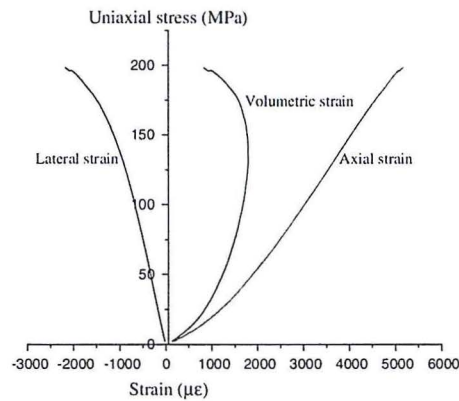

Figure 2
- a) Briefly discuss the effects of specimen end preparation on uniaxial compressive strength of intact rock specimen and how do you prepare the sample such that these effects are minimised? (12)
- b) Figure 2 is the stress-strain curve was obtained from a uniaxial compressive strength test of a sandstone specimen. Determine average Elastic modulus, Poisson's ratio, peak strength and yield point load. (8)